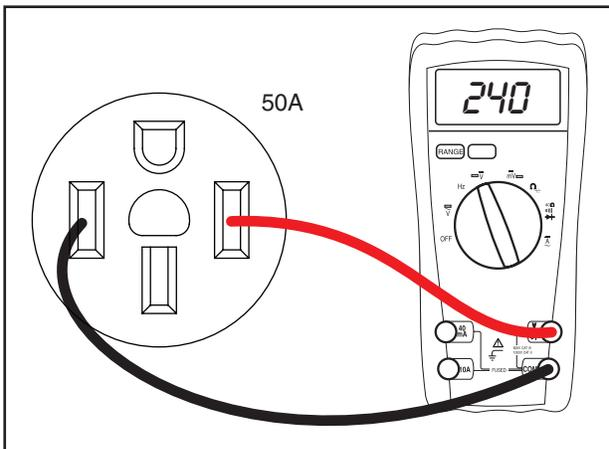

Figure 6-1. – VOM Test Leads Connected to 50A Outlet
6. Place the meter test leads into the 50A outlet. See Figure 6-1.